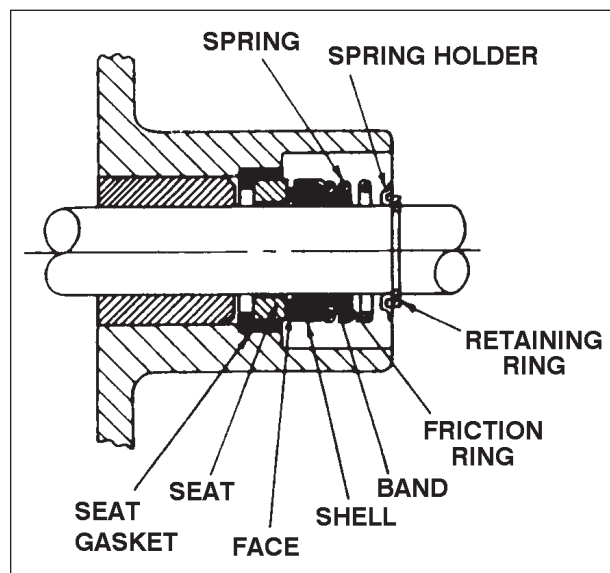

Figure 6-3 – Shaft Seal Assembly
10. Assemble the shaft seal assembly as follows (**see Figure 6-3**):